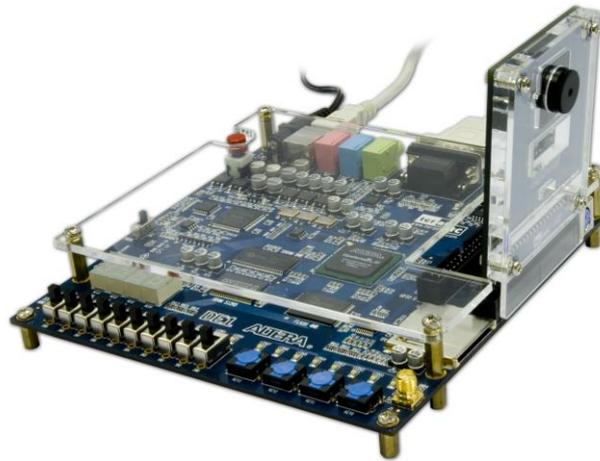

Figure 3-6 The Connection Setup for DE1 users
- Ensure the connection is set correctly as shown in **Figure 3-6**. Make sure the D5M is connected to **JP2 (GPIO 1)** of the DE1 board.